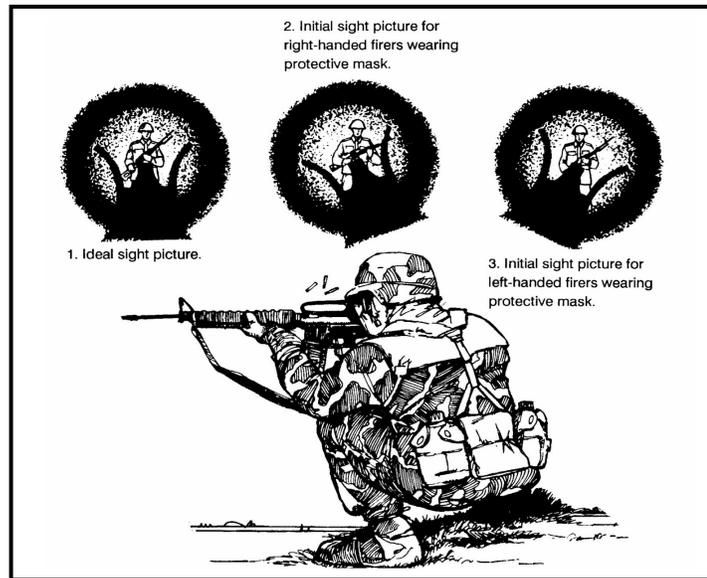

Figure 7-18. Sight picture when canting the rifle while wearing a protective mask (75-meter target).
(2) **Aiming.** Wearing a protective mask may force firers to rotate (cant) the rifle to see through the rear aperture. The weapon should be rotated the least amount possible to see through and line up the sights. The center tip of the front sight post should be placed on the ideal aiming point. This ideal aiming procedure (Figure 7-18, page 7-21) should be the initial procedure taught and practiced.